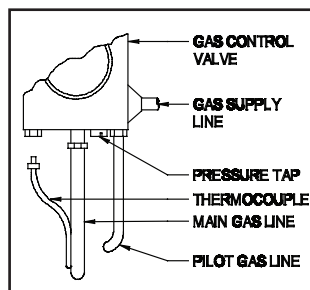

Figure 8
1. Remove pressure tap plug in gas valve. (See Figure 8) **NOTE:** If installing on an existing appliance, shut off gas supply to gas valve before plug removal.
1. Remove the thermocouple from the gas control valve. (See Figure 8)